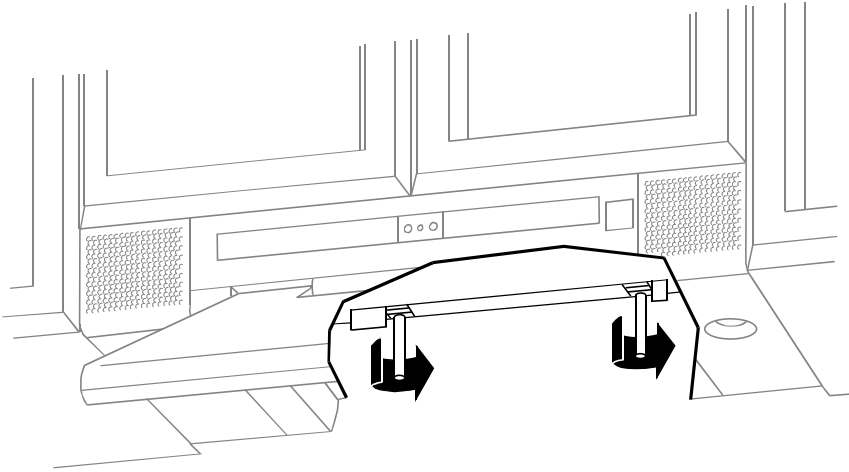

Figure 4-2 Loosening the lock pins
- Using either your fingers or a flat screw driver, reach behind the back panel to unscrew and loosen the 2 steel lock pins. This will allow the unit to slide forward on the mounting bracket (Figure 4-2).